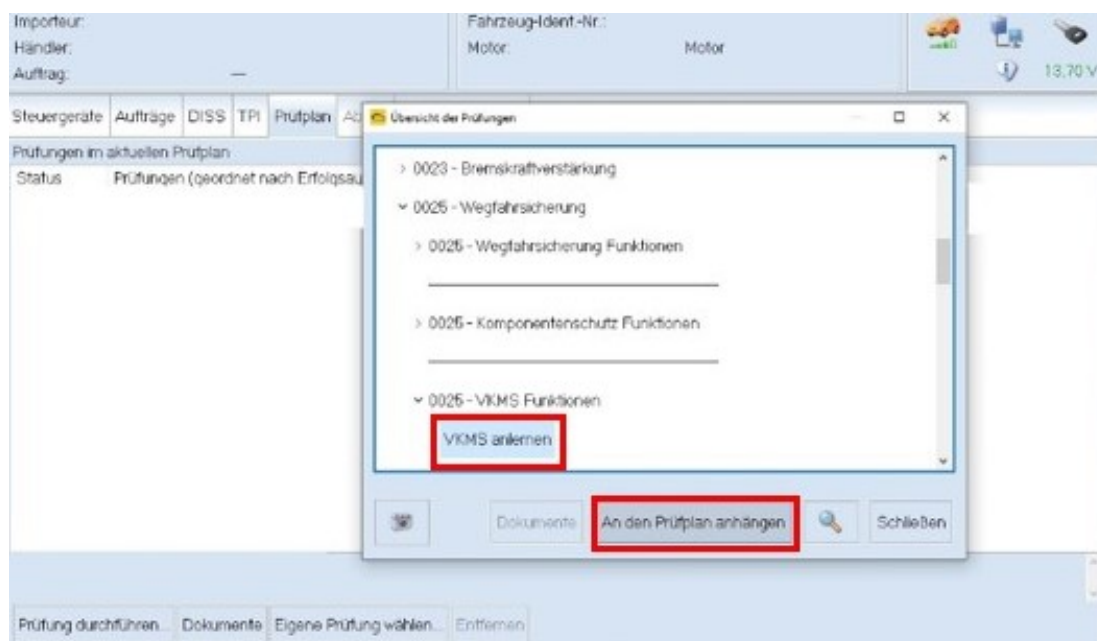

Figure 7: Test plan: Adapt the VKMS
- Select the check **"0025-VKMS Functions -> Adapt VKMS"** (see Figure 7, highlighted in red) and attach it to the test plan (see Figure 7, highlighted in red). **"Systems suitable for diagnosis" -> "0025 - Immobilizer" -> "0025 - VKMS Functions" -> "Adapt VKMS"** .